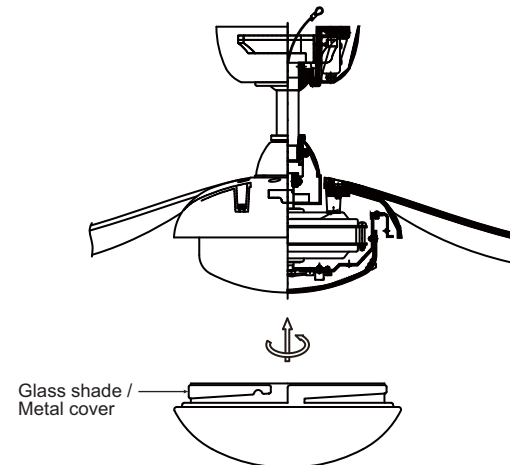

Fig. 16
Step 1. Raise the glass shade against the fan motor and turn clockwise until snug, **DO NOT OVERTIGHTEN**. (Fig. 16)
NOTE: If you do not plan to install the LED light kit with your fan at this time, raise the metal cover against the fan motor and turn clockwise until snug, **DO NOT OVERTIGHTEN**. (Fig. 16)